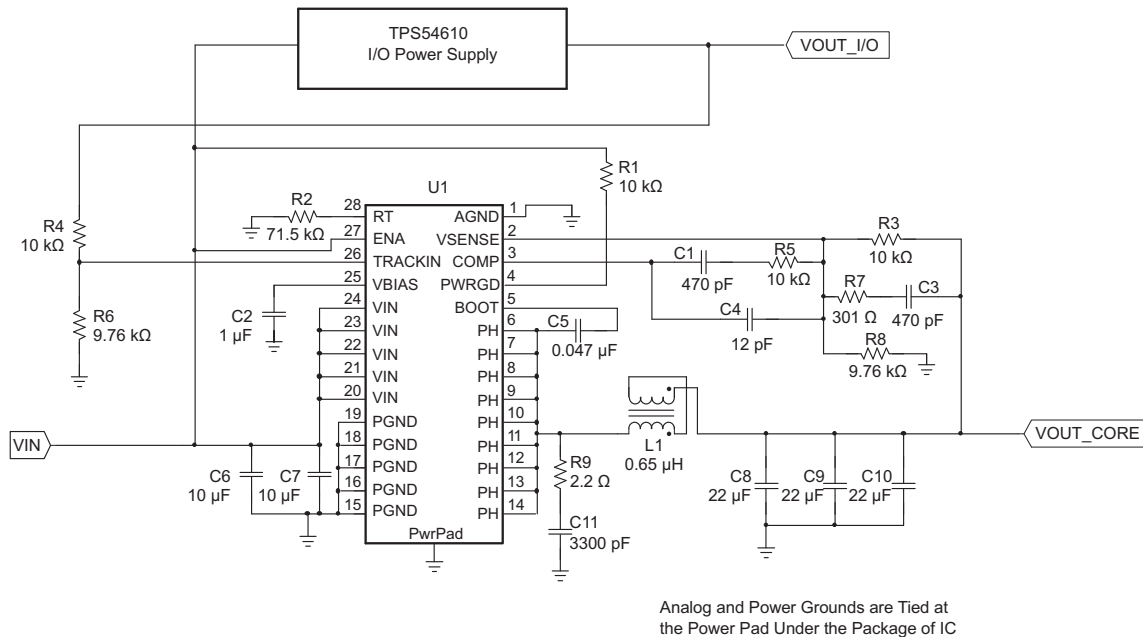

Figure 10. Application Circuit
- (1) Specified by design from -40° C to 85° C.
- (2) Static resistive loads only
- (3) Specified by the circuit used in Figure 10
Figure 10 shows the schematic diagram for a typical TPS54680 application. The TPS54680 (U1) can provide greater than 6 A of output current at a nominal output voltage of 1.8 V. For proper thermal performance, the exposed thermal PowerPAD underneath the integrated circuit package must be soldered to the printed-circuit board. To provide power up tracking, the enable of the I/O supply should be used. If the I/O enable is not used to power up, then devices with similar undervoltage lockout thresholds need to be implemented to ensure power up tracking. To ensure power down tracking, the enable pin should be used.